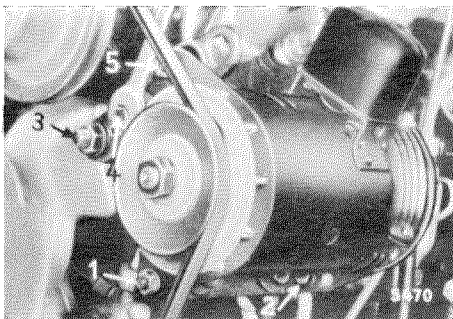

Figure 20-6/1
1. Loosen the hex. hd. screws (1) and (2) on the generator support, the hex. hd. screw (5) on the generator holder and the hex. hd. screw (4) as well as the hex. nut (3) at the mounting rail (see Figure 20-6/1).